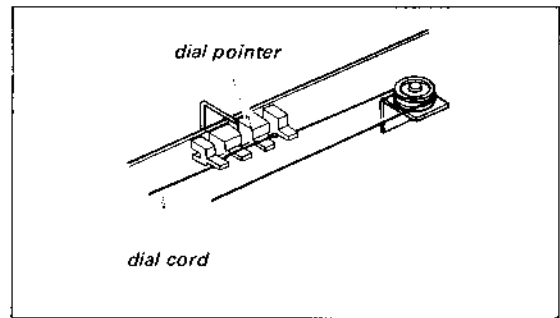
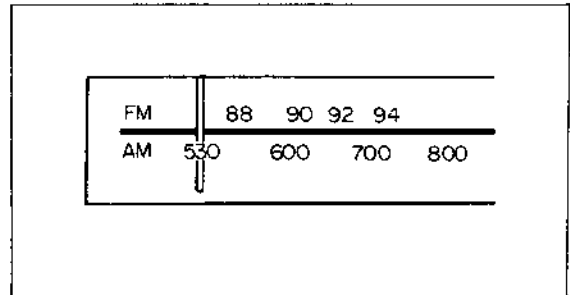

Fig. 2-10. Dial pointer installation
Fig. 2-11. Mechanical dial calibration
1. Put the dial pointer on the cord as shown in Fig. 2-10, and move it to a position where the pointer coincides with the 530 kHz mark on the dial scale in the front subchassis as shown in Fig. 2-11, when the tuning capacitor is set to the maximum capacitance position.